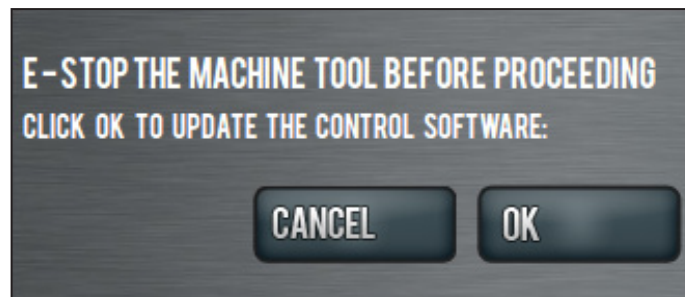

Figure 3
7. When prompted, push in the red Emergency Stop button and click *OK* (see **Figure 3**).